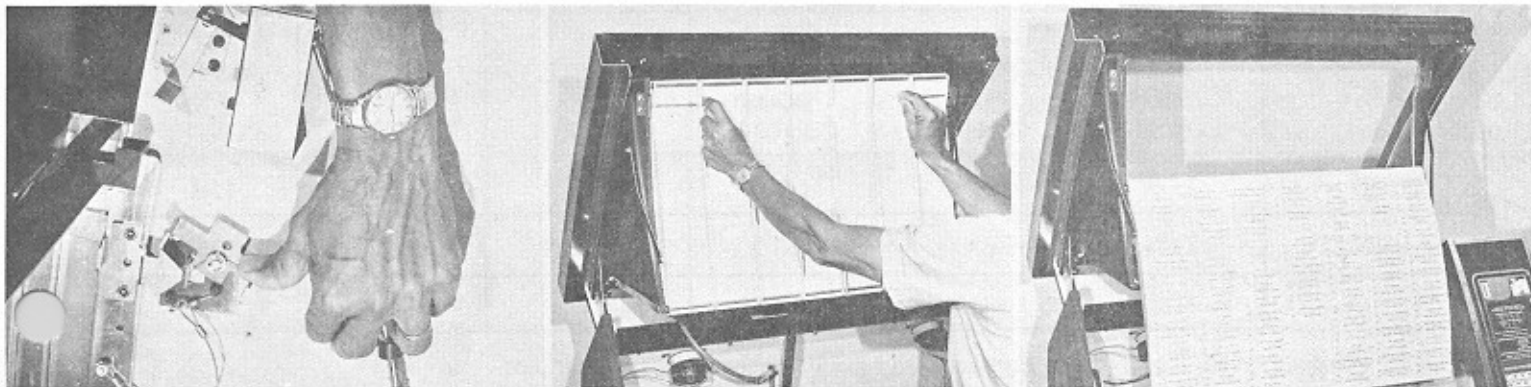

FIGURE 1-3. OPENING PHONOGRAPH CABINET
2. Remove tape from title panel. Pull out rods as shown in figure 1-3 to release title panel. Swing panel down from the top. The panel is not removable.
1. Open top door and swing out title panel as shown on page 1-5, figure 1-3.